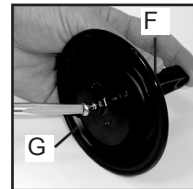

Figure 4.
4. Next remove the 12 torx screws that hold the flange in place. The flange and diaphragm can then be removed. Figure 3. Note: For clarity the pressure cylinder is shown removed from the tank. Figure 4.
5. To replace the diaphragm, remove the connecting rod retaining screw (G) from the plunger and lever (F). Replace the diaphragm and reassemble. See Figure 4.